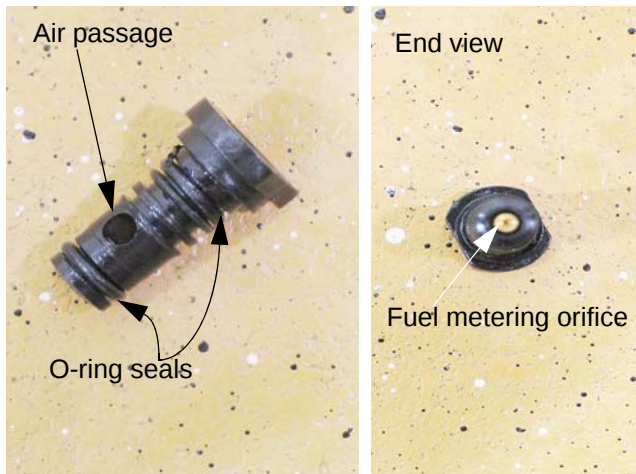

Figure 8.34
8.34. Examining the metering plug: See Figure 8.34.